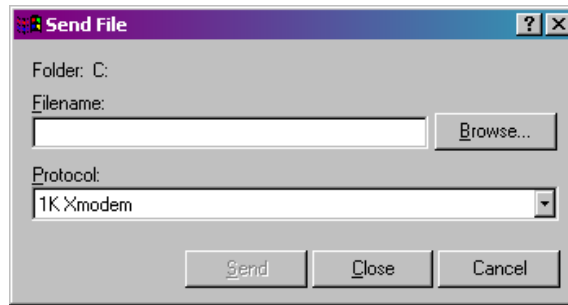
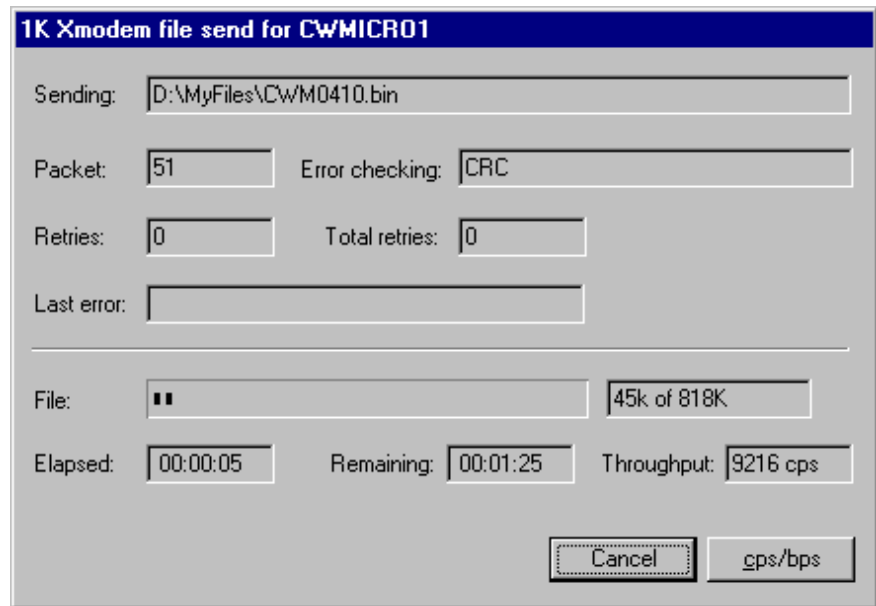

Figure 5-3. Send File dialog box
Figure 5-4. HyperTerminal (Download in Process)
8. In the Send File dialog box (see Figure 5-3), select **1KXmodem** for the protocol, enter the filename of the appropriate .bin file in the format “CWMxxxxx.bin” (where xxxxx varies from release to release) and click **Send** to start the flash upgrade (see Figure 5-4). When you see the HyperTerminal Mode Menu again, it means the download has completed.